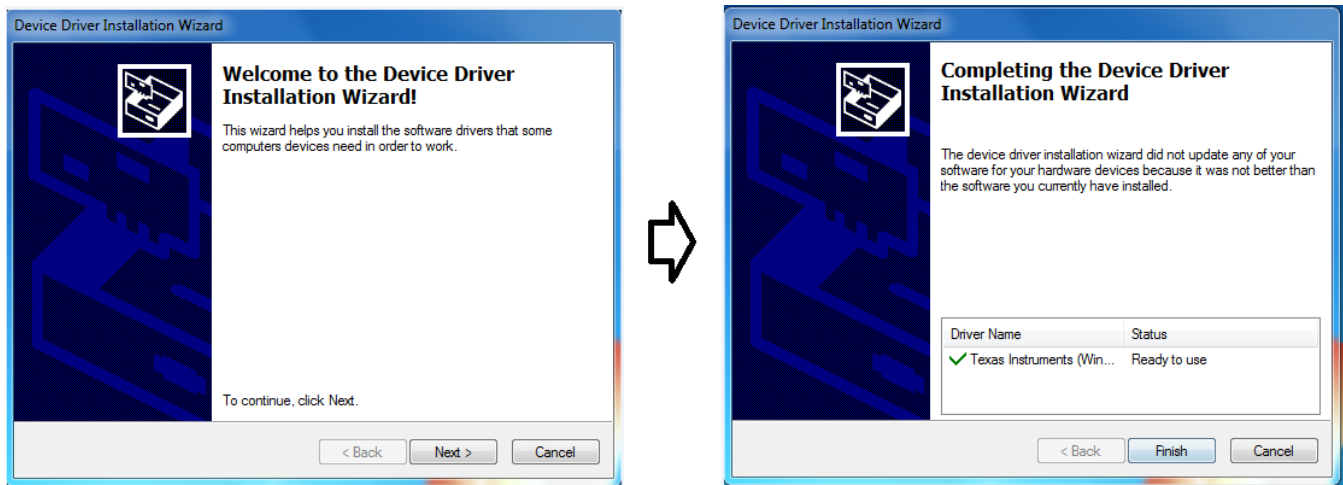

Figure 4. Device Driver Installation Wizard Prompts
- As a part of the ADS7057EVM GUI installation, a prompt with a Device Driver Installation Wizard appears on the screen (see Figure 4). Click the *Next* button to proceed, then click the *Finish* button when the installation is complete.